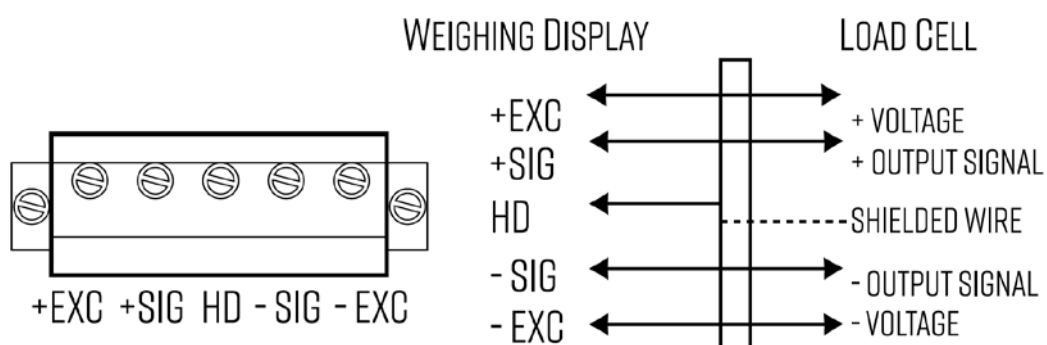

FIGURE 3: INNER TERMINAL BLOCK CONNECTION DIAGRAM
- Open the back cover of the weighing indicator, and insert signal cable to the terminal block (see figure 3); Make sure the screw on terminal block is fixed tightly